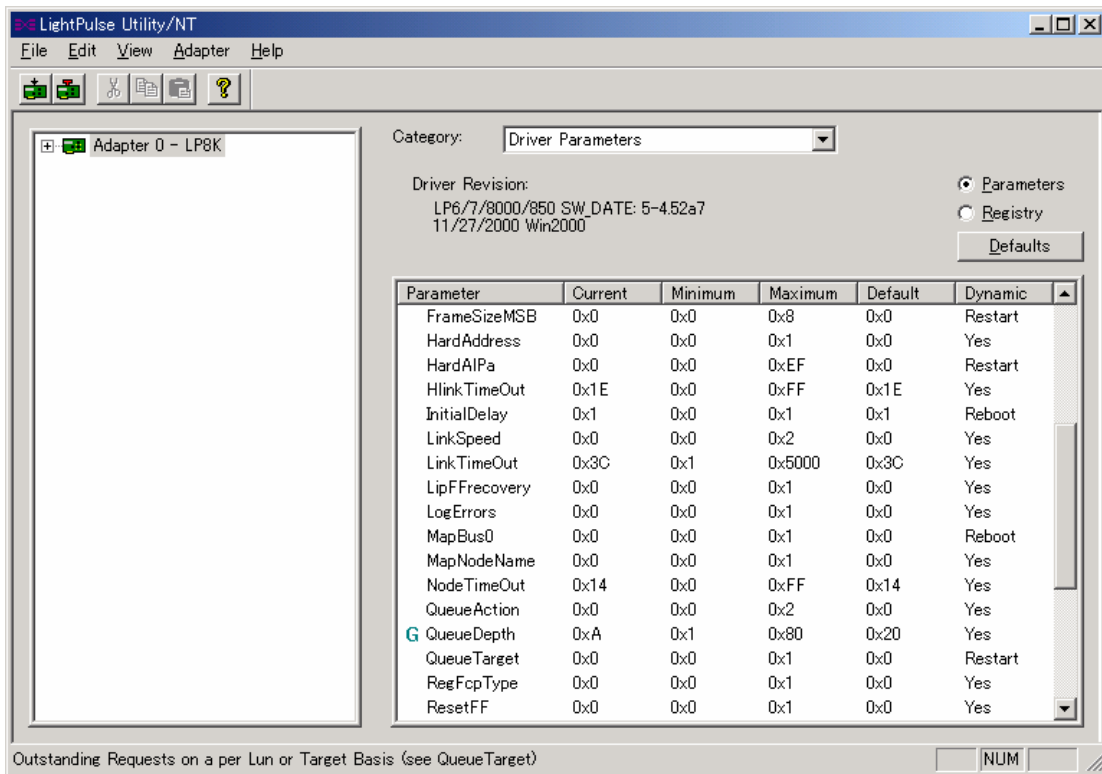

Figure 2.7 LightPulse Utility/NT Panel
- d) Select **lputilnt.exe** from the **Find: Files named** list box, then press Enter. The LightPulse Utility/NT panel opens as shown in Figure 2.7. The installed adapter(s) is/are displayed on the left side of the panel. Verify that the installed adapter(s) is/are displayed.